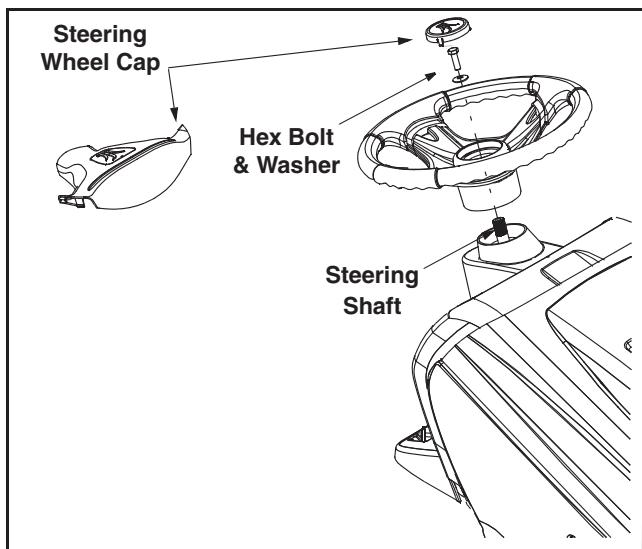

Figure 3
NOTE: There are two different styles of steering wheel cap. See Figure 3. **Styles vary by model.**
- Reinsert the steering wheel cap in the center of the steering wheel. Refer to Figure 3.